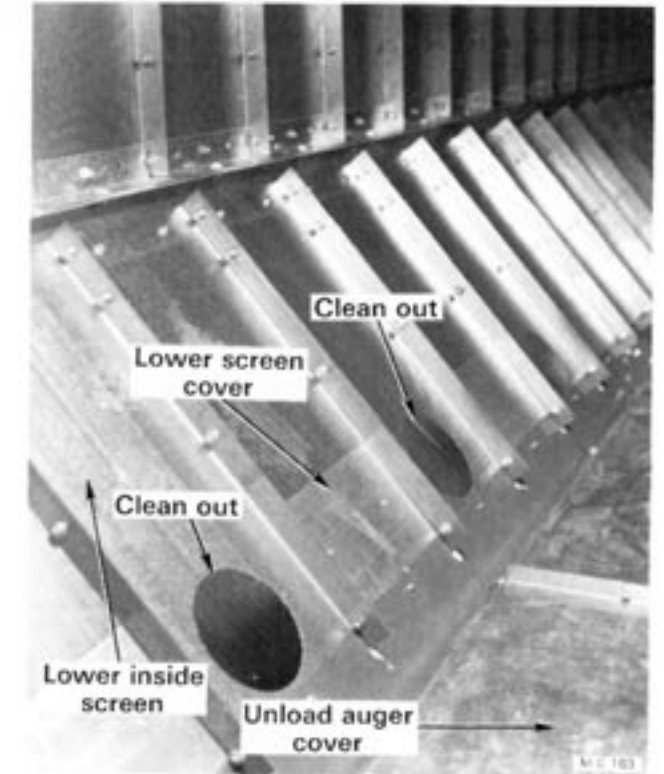

Figure 28
- There is a clean-out in every lower inside screen. Remove lower screen covers, see Figure 28. Reinstall the lower screen covers and close the dryer rear door.